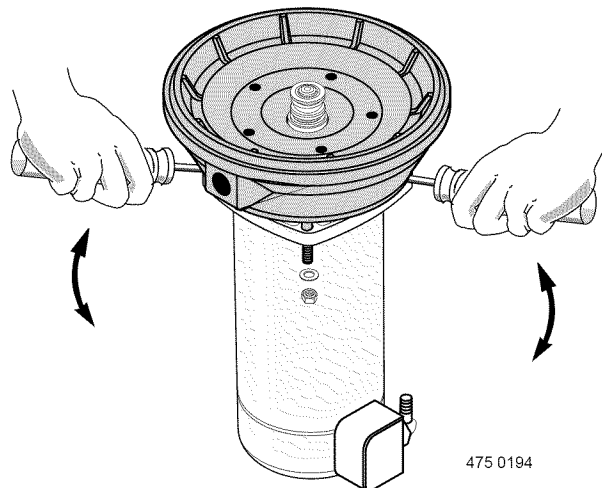

Figure 5
3. Remove pump back half from motor by unscrewing four (4) nuts. Pry back half off motor by inserting two (2) screwdrivers between the back pump half and the motor flange. This will force rotating portion of seal off shaft. See Figure 5, Page 8.